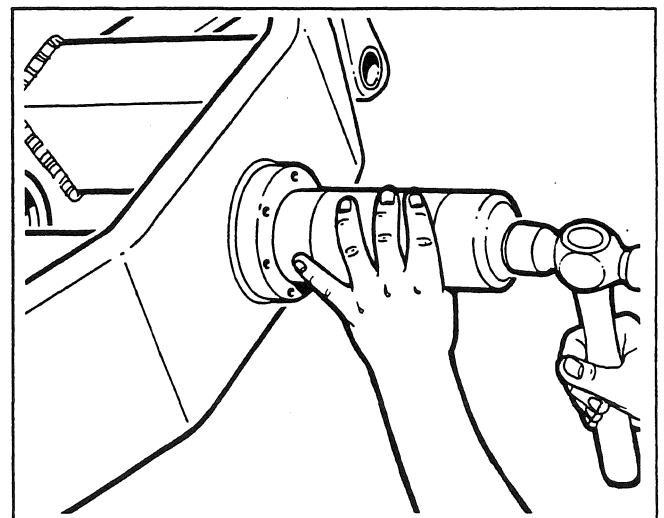

Fig. 4
1. Lubricate the needle roller bearings (4 and 8) with grease. Use a hammer and appropriate tubular drift to install the bearings into the axle frame front and rear bosses (see Fig. 4). Lubricate and install new seals (5 and 7). The seal lips should face outward.